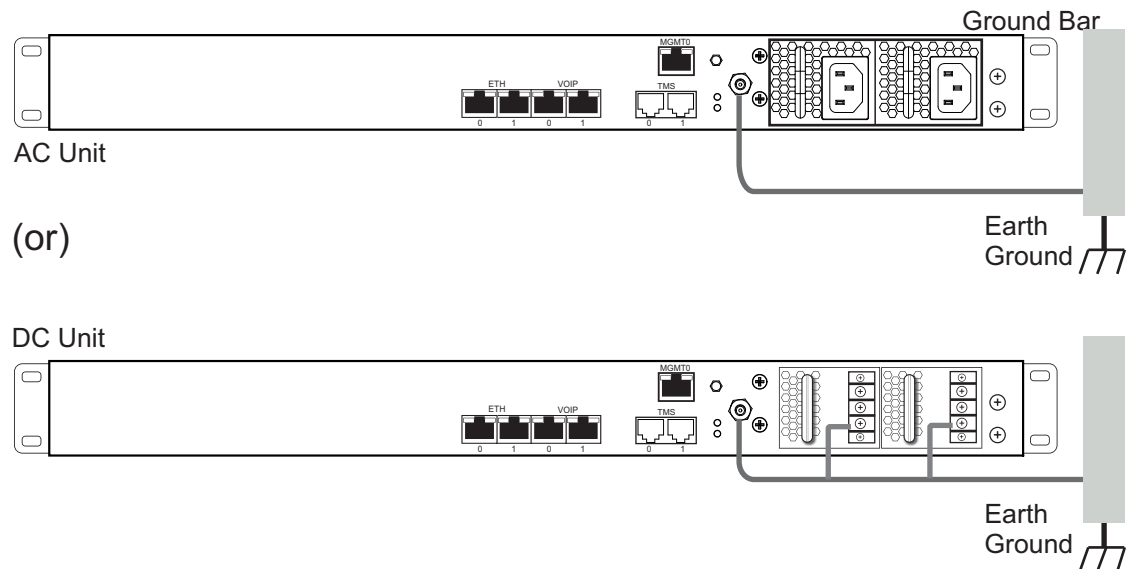

Figure 4.3 Chassis Ground Connection
- Do NOT daisy chain the ground between equipment. Use a ground bus bar, as show in figure 4.3 on page 28.
1. Connect one end of a ground wire to the ground lug of the TSBC-HW-TRANS. See figure 4.3 on page 28.